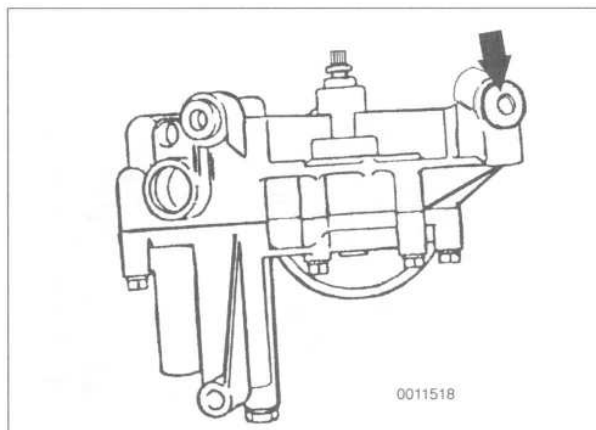

Fig. 12. Before installing oil pump on M60 motor, turn threaded spacer (arrow) to stop.
- M60 engines: Before installing pump, install oil pipes into the block. Turn threaded spacer on pump fully to stop. See Fig 12.